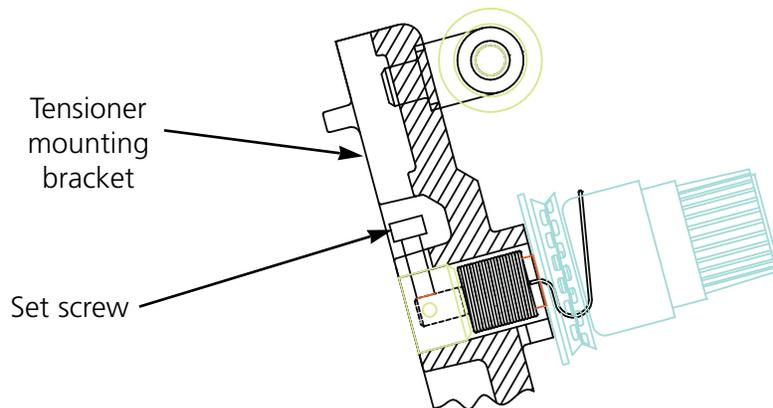

Figure 5-25
1. Slightly loosen the set screw in the top of the tensioner mounting bracket (see Figure 5-25).